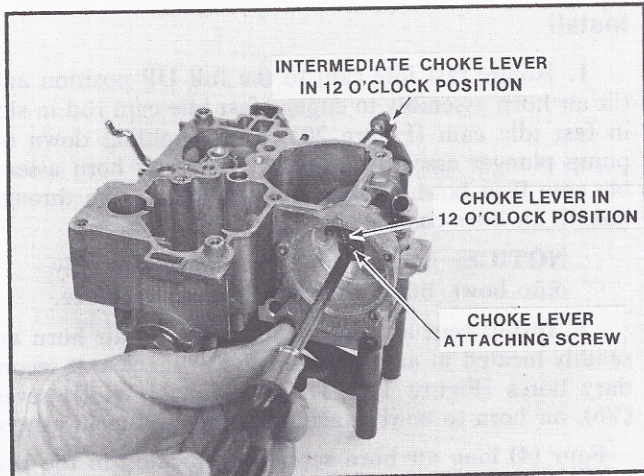

FIGURE 37 CHOKE COIL LEVER POSITION INSTALLED
7. With intermediate choke lever in the UP (12 o'clock) position, install thermostatic coil lever inside choke housing onto flats on intermediate choke shaft. Coil is properly aligned when the coil pick-up tang is at the top (12 o'clock) position (Figure 37). Install inside lever retaining screw into end of intermediate choke shaft and tighten securely.